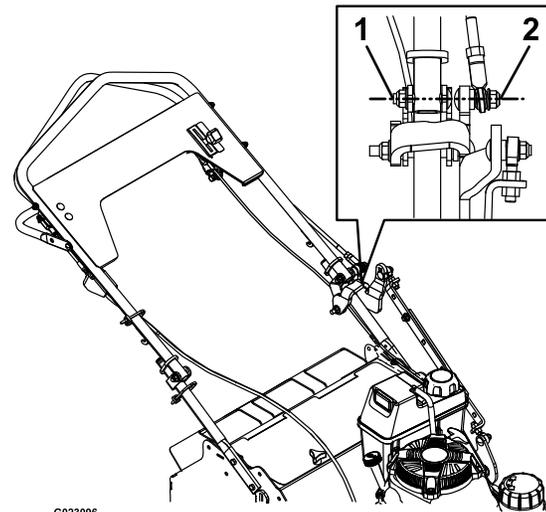

Figure 19
3. The lower ball joint bolt on the upper link rod should be in line with the handle pivot bolt (Figure 19). If not, loosen the lock nuts on the lift link strap ball joints, adjust as necessary, and tighten the locknuts. Care should be taken to adjust the upper and lower ball joints evenly.